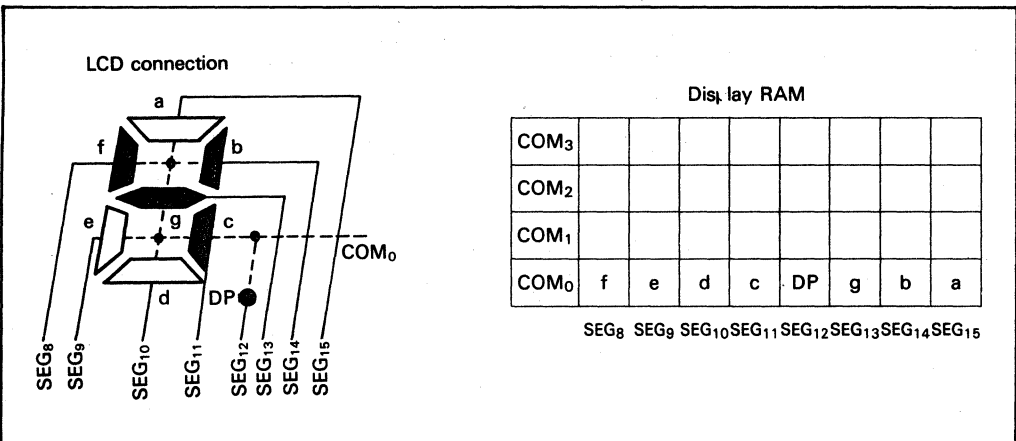

Figure 4 Example of Correspondence between LCD Connection and Display RAM (Static Drive, HD61604)
1. **Static Drive:** In static drive, only the column of COM_0 of display RAM is output. COM_1 to COM_3 are not displayed (figure 4).